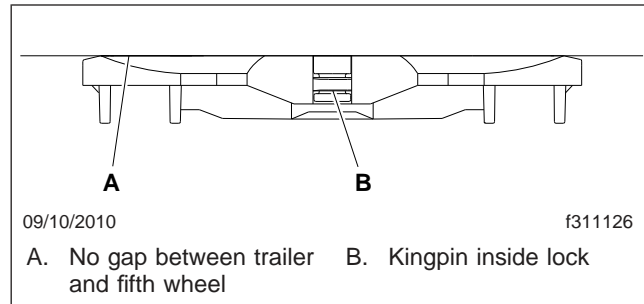

Fig. 10.6, Coupling Inspection
8. Perform a coupling inspection, checking that there is no gap between the bottom of the trailer and the fifth wheel, and that the kingpin is securely locked. See Fig. 10.6
10. Apply the tractor parking brake, then perform a physical check for positive kingpin lockup, and that there is no gap between the trailer and the fifth wheel. See Fig. 10.6.